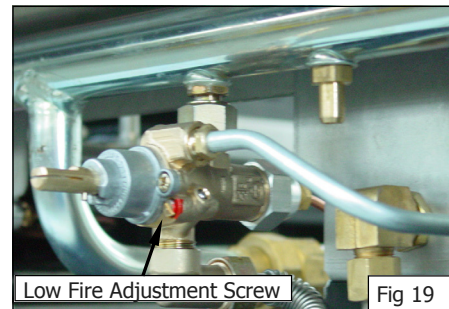

Fig 19
- b. Adjust the low fire adjustment screw on the open burner gas control valves to obtain the desired flame size. (See Fig 19).